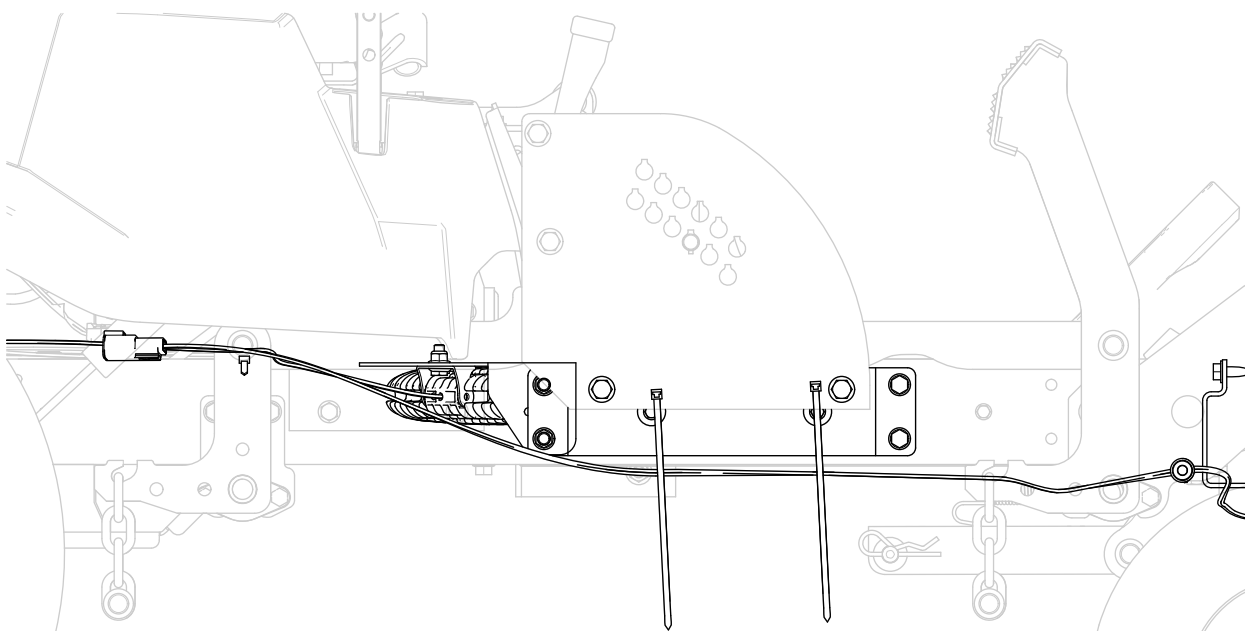

Figure 12
7. Continue to route the wire harness along the right side of the machine and secure the wire harness to the lift plate using 2 cable ties (Figure 12).